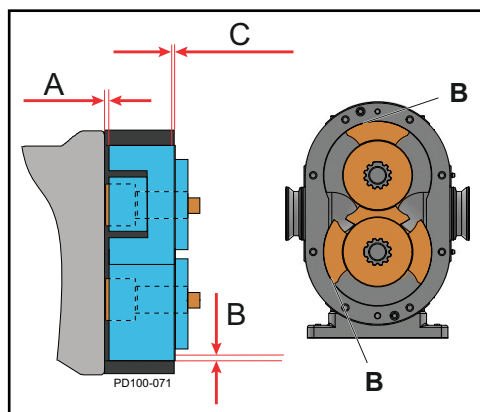

Figure 61 - Measure Clearance
9. Measure the rotor backface clearance (Figure 61, item A) through the port or from the front. The backface clearance for both rotors must be the same to prevent rotor crossover contact and must be $\pm .0005$ " of the value found in Table 11, "Rotor Clearances," on page 55.
10. Check the rotor front face clearance (Figure 61, item C).
11. Check the rotor to body clearance (Figure 61, item B).